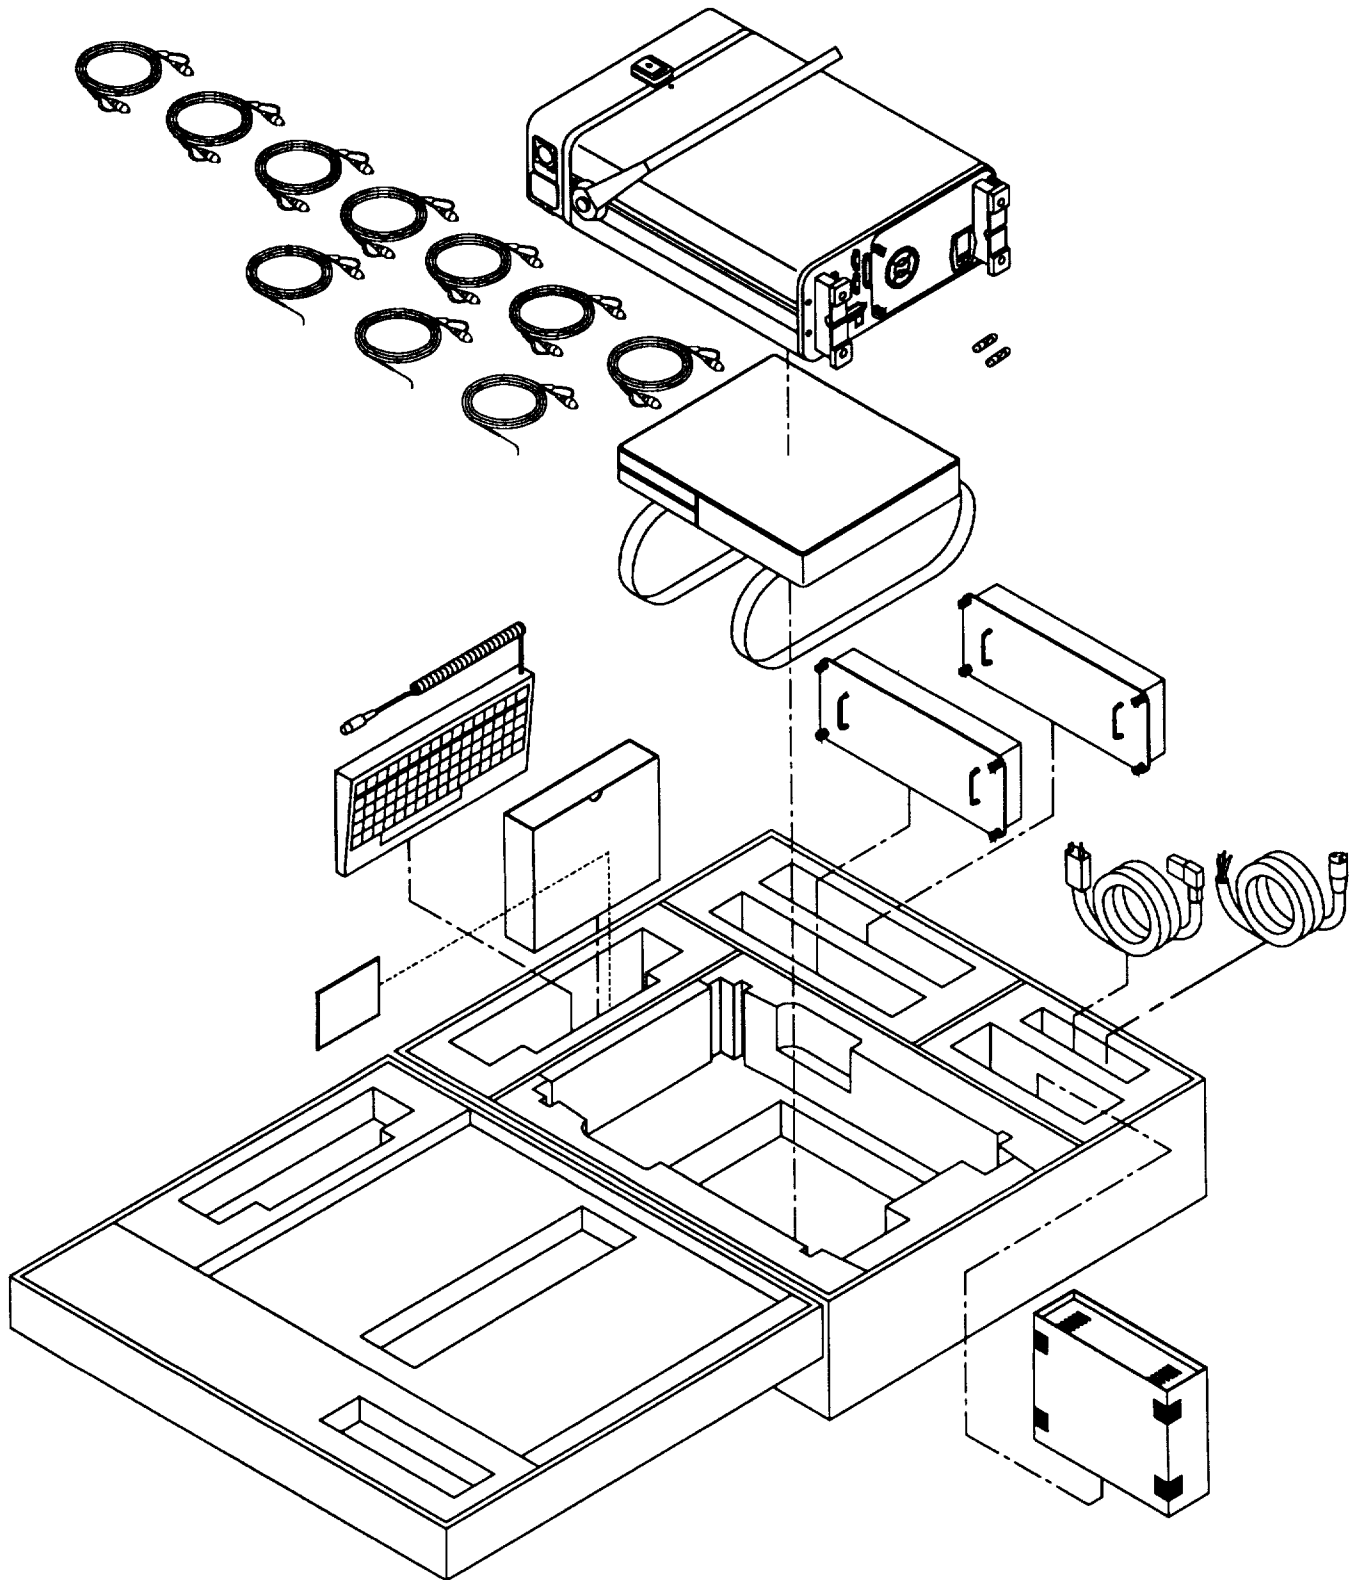

Figure 1-1. Optical Fiber Test Set TS-4320 (P/G).
- b. *Model Number and Equipment Name:* Optical Fiber Test Set TS-4320(P)/G (fig. 1-1).